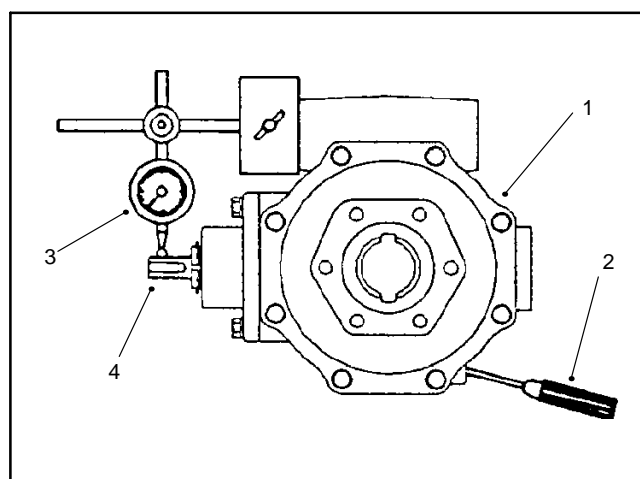

Figure 30
11. Insert a screwdriver through the drain plug hole to hold ring gear and measure the pinion gear to ring gear backlash (Fig. 30).